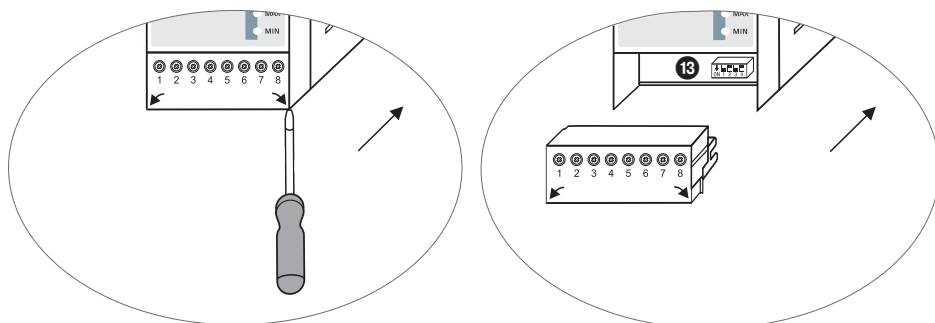

Fig. 4
- Remove **lower** terminal strip. **Fig. 4**